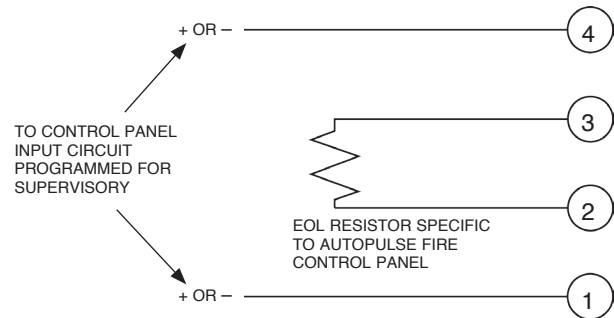

FIGURE 6-41
9. Separate the two conductor wire, strip the wire covering, remove the covering from the ends, and install it into the upper switch connector per the wiring diagram. Reference the AUTOPULSE fire control panel documentation for the correct EOL resistor value and install the correct EOL resistor from the wiring diagram. See Figure 6-41.